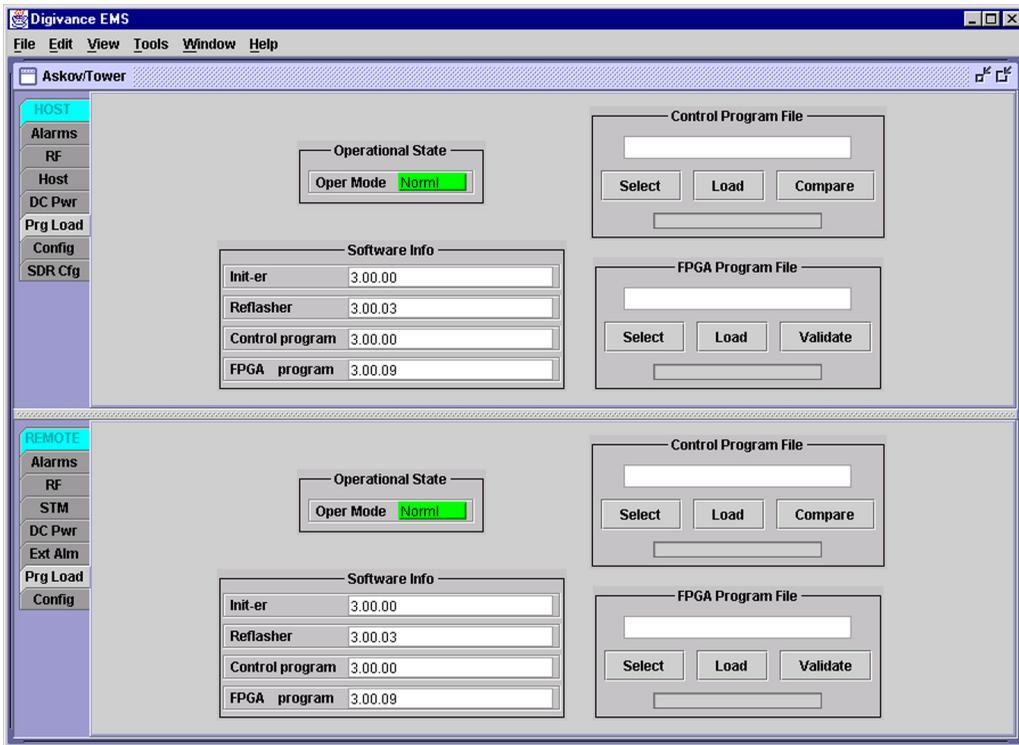

Figure 42. Host and Remote Prg Load Windows
Figure 42 shows the host and remote **Prg Load** windows. Table 3 describes the programs identified in the window.
3. Click on the host or remote **Prg Load** tab (as appropriate) to view the host or remote program load window, shown in Figure 42.